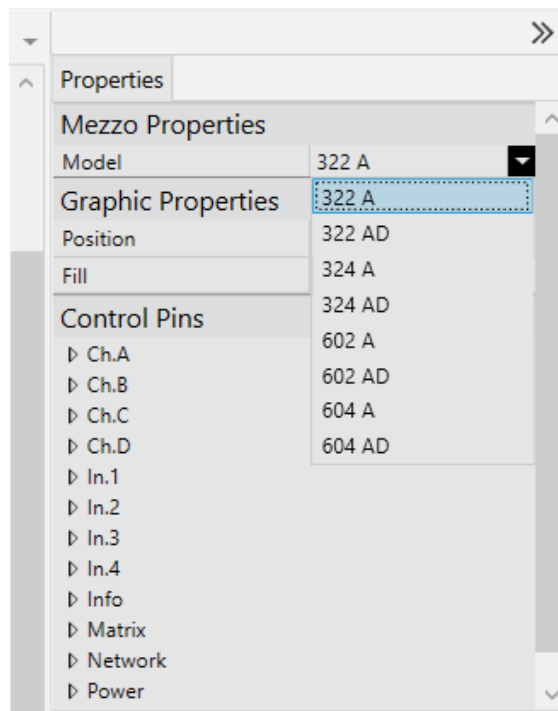

Figure 2 – Screenshot of QSYS Designer's Properties Pane.
2. Choose the model to control in the QSYS Properties pane (Figure 2).